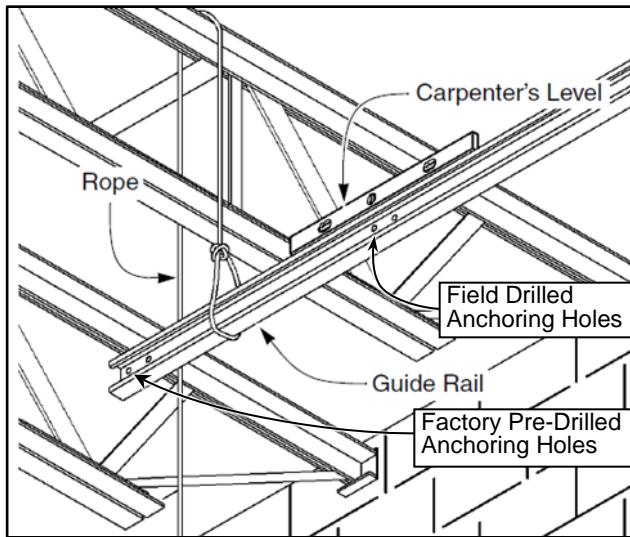

Figure 53
7. Support the end of the guide rail (track) with rope or a mechanical device. Place a carpenter's level on top of the guide rail and secure the guide rail in a level position. Must be provided by others. (See Figure 53)